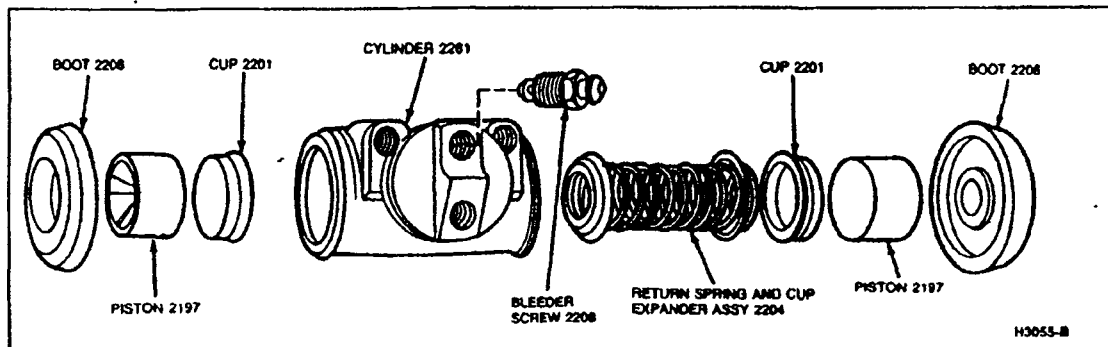

FIG. 8 Brake Wheel Cylinder—Typical
1. Remove the links and the rubber boots from the ends of the brake cylinder. Remove the pistons; cups, and return spring and expander assembly from the cylinder bore (Fig. 8).
3. Insert the return spring and expander assembly, cups, and pistons into their respective positions in the cylinder bore (Fig. 8). Place a boot over each end of the cylinder.